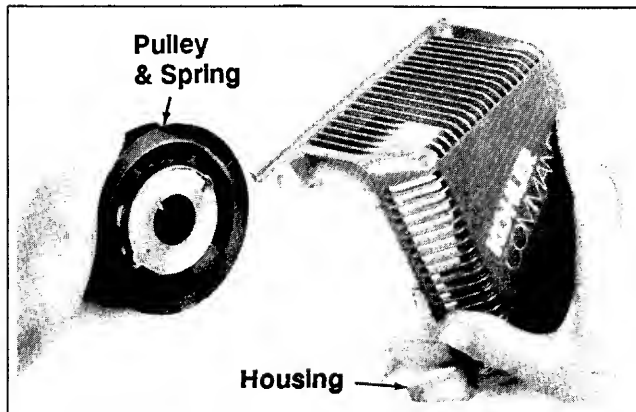

Figure 7-9. Installing Pulley And Spring Into Housing.
2. Install the pulley with spring and keeper assembly into the starter housing. See Figure 7-9.